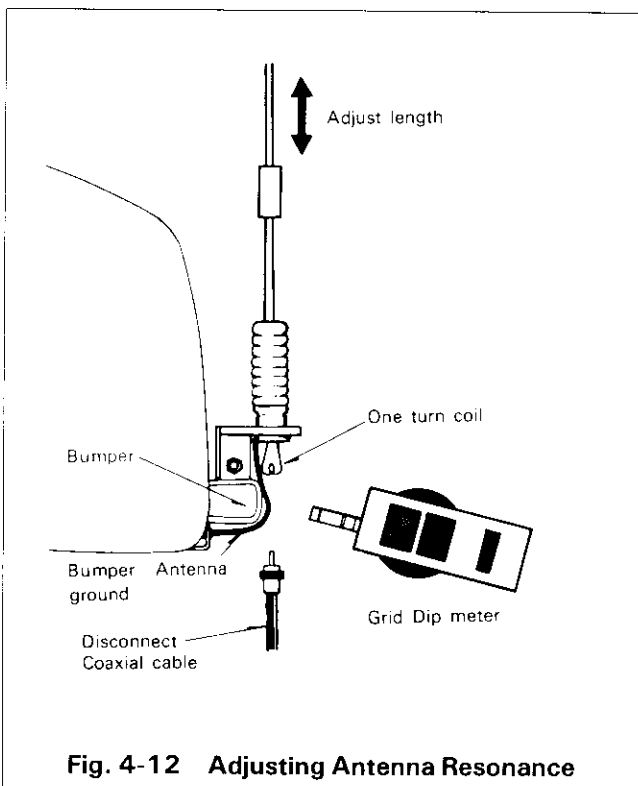

Fig. 4-12 Adjusting Antenna Resonance
HF antennas are larger, have more wind load, and are heavier than VHF antennas. A bumper mount is recommended for general use. The mount must be perfectly grounded to the car body since the body itself functions as the ground plane for the mobile antenna. (Refer to Fig. 4-12)
### (3) Antenna Adjustment (Fig. 4-12)
The antenna should initially be adjusted with a dip meter, then impedance matching should be checked with an SWR meter. (See Fig. 4-12)